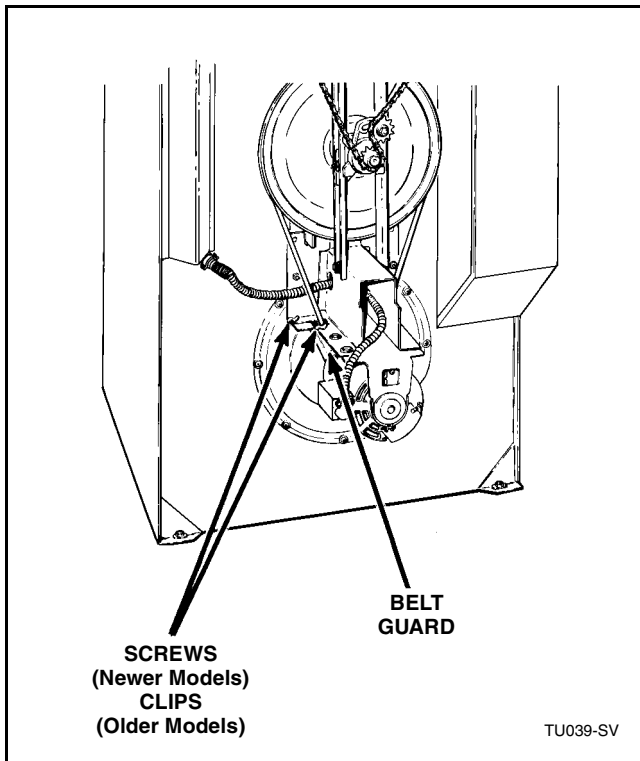

Figure 30
- b. Remove four clips or two screws holding belt guard assembly to motor bracket. Refer to *Figure 30*. Remove belt guard.